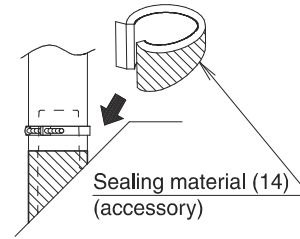
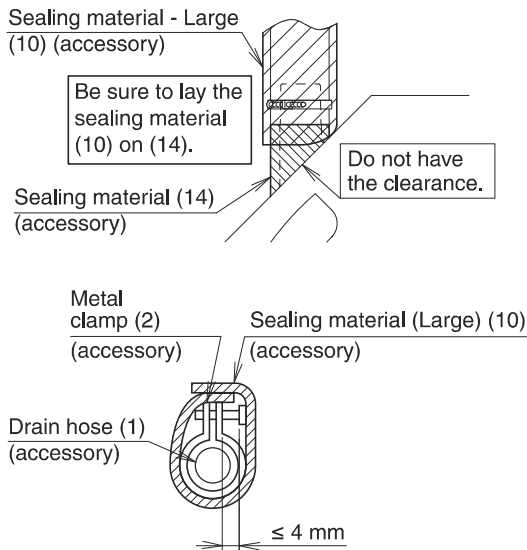

Fig. 19
Fig. 21
- After checking the drainage of water, refer to Fig. 19 and attach the sealing material (14) to perform the thermal insulation of the drain socket.
After checking the drainage of water, refer to **Fig. 19** and attach the sealing material (14) to perform the thermal insulation of the drain socket.
(3) Sweating may occur and result in water leakage. Therefore, make sure to insulate the following 2 locations (drain piping and drain sockets that laid indoors).
After drainage is checked, put the attached sealing material (14) referring to **Fig. 19**, and insulate the drain hose (1) and the metal clamp (2) with the attached sealing material (Large) (10) referring to **Fig. 21**.